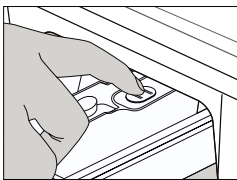

Fig. 20
- Press release lever on the inside of the drawer and pull it out. Fig. 20